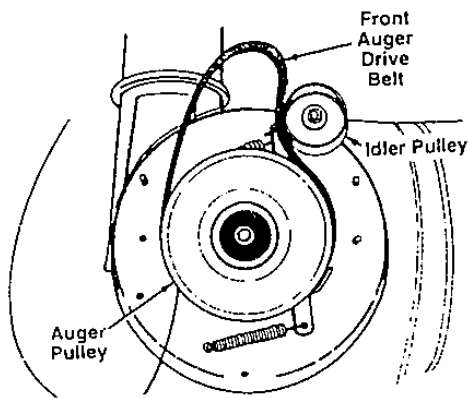

FIGURE 27
- To remove the front auger drive belt, push the idler pulley to the left, and lift front auger drive belt from the front auger pulley. See figure 27. Replace both auger drive belts by following instructions in reverse order.
**NOTE:** When reassembling the two halves of the unit, the auger drive cable must be routed through the cable roller guides as shown in figure 27.